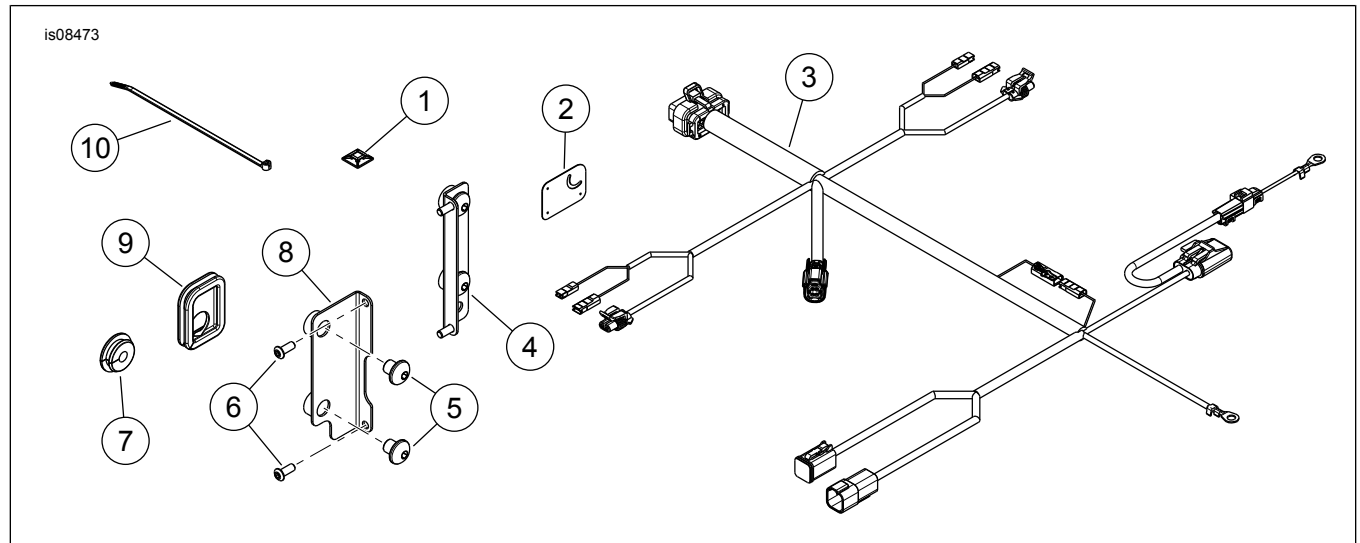

Figure 4. Service Parts, Tour-Pak Speaker Installation Kit
See Figure 4 and Table 1.
3. Use a step drill to create a new 25.4 mm (1.0 in) hole (2) the speaker pod (3). This hole is used for the new harness.
5. See Figure 4. Attach brackets (4 and 8) to amplifier (amplifier sold separately). Secure with screws (6). Tighten to 9.4–12.2 N·m (7–9 ft-lbs).